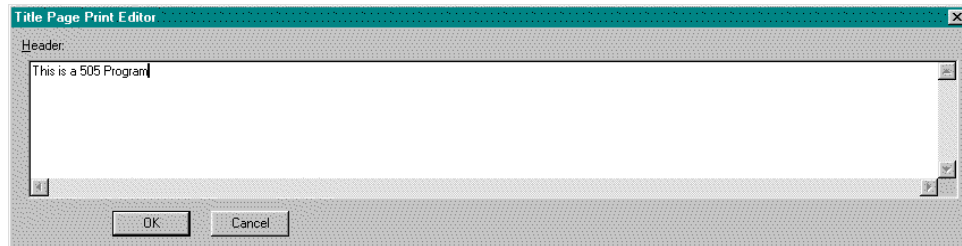

Figure 7.10
2. The following dialog window is displayed (Figure 7.10):